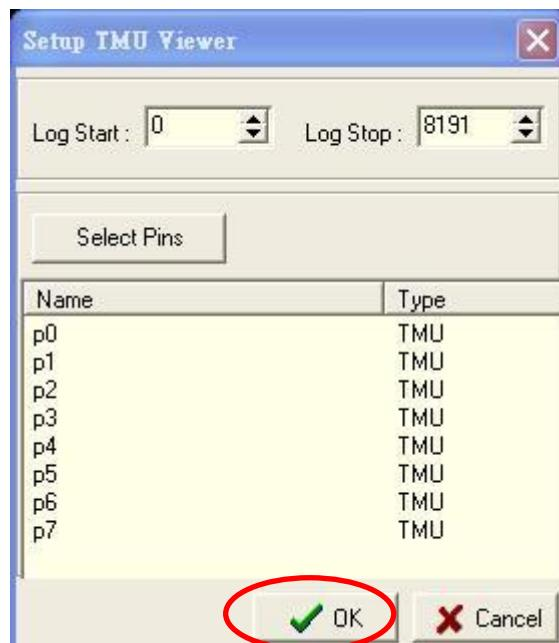

Figure 22-4 Setup TMU Viewer Parameters
- (1) From the TMU Viewer parameter setup window, make necessary parameter entries (see Figure 22-4).
- (2) Click **OK** button to finalize the parameter input. At the moment, the parameters are setup in this manner.